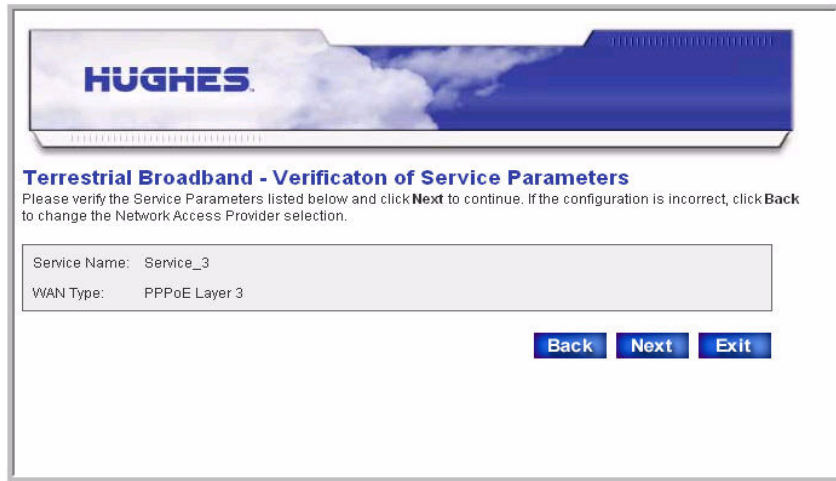

Figure 27: Manual entry - Verification of Service Parameters
7. The Verification of Service Parameters screen displays as shown in Figure 27.